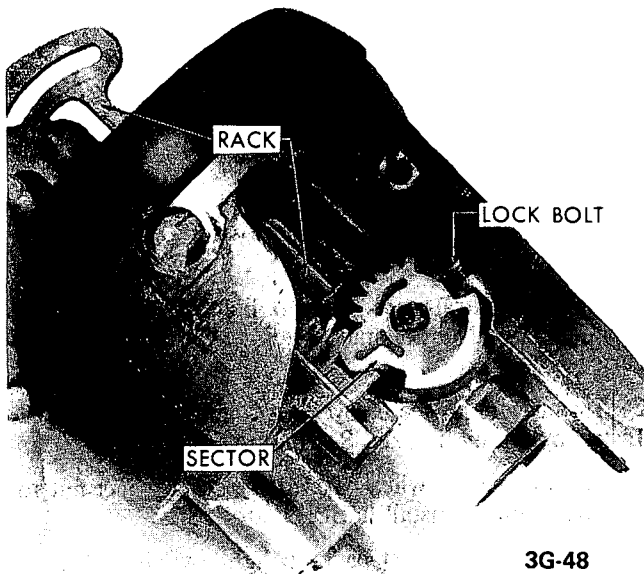

Figure 3G-115 - Engaging Block Tooth on Rack to Sector
5. Install lock bolt and engage with sector cam surface. See Figure 3G-115.